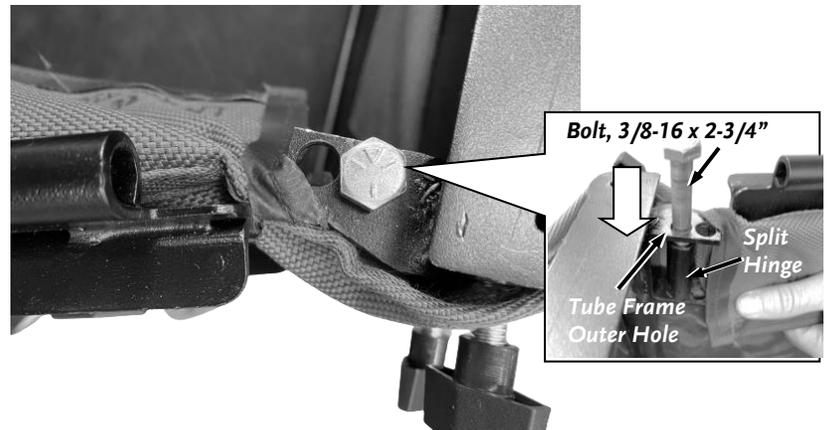

Figure 45
4. Inside the canvas, position the Split Hinge to the Tube Frame by aligning the hinge to the outer most hole on the frame (**Figure 45**).